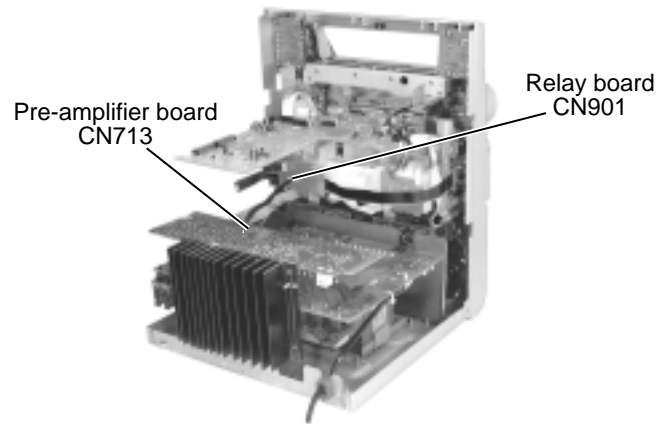

Fig.27
■ Removing the pre-amplifier board / heat sink (See Fig.27 to 29)